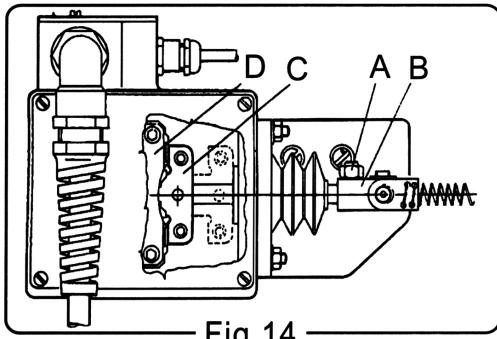
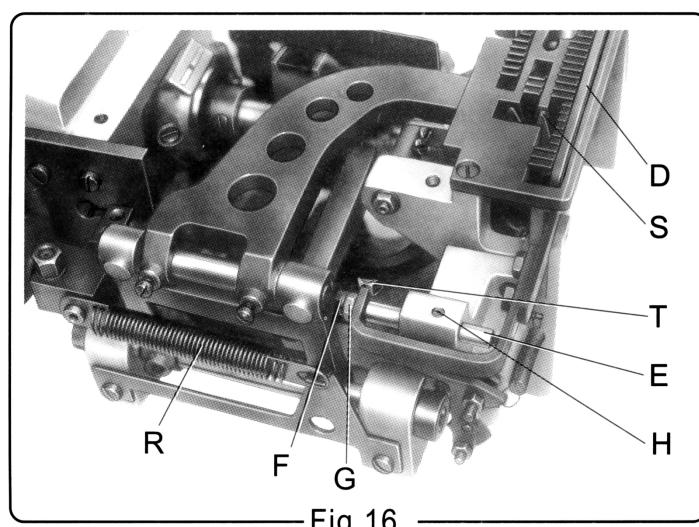
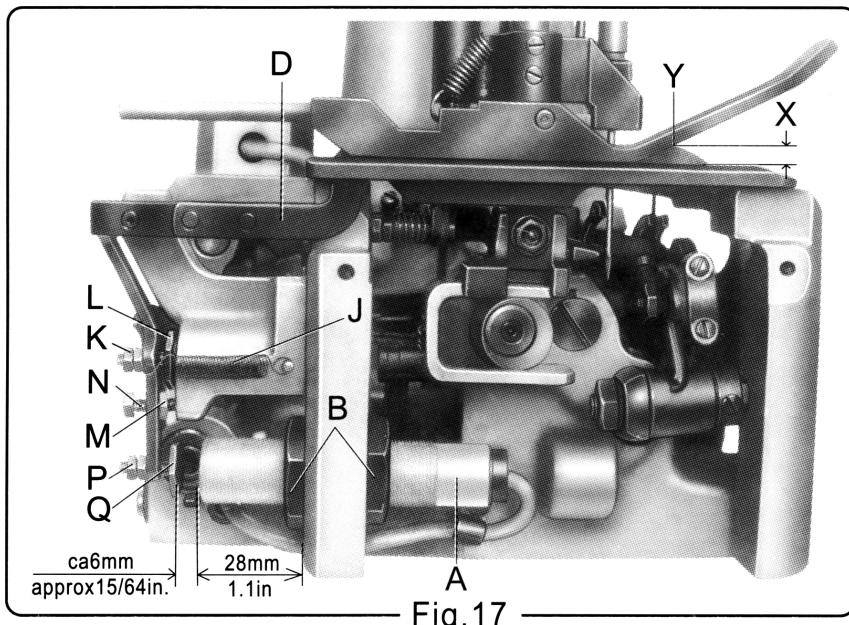

Fig.14
Fig.16
Fig.17
Model GK35-5 thread chain cutter is driven by electro-magnet . Model GK35-6 thread chain cutter is driven by air cylinder . When the thread chain cutter is in its home position below the throat plate , the knife tip of the chain cutter S (Fig.16) should be positioned 0.5mm below the throat plate top surface . To obtain this , adjust the knife lever stop screw T with lock nut in the bottom of the bed casting accordingly. retighten nut . In cutting position, above the throat plate top surface , the cutting edges of the chain cutters should overlap by 0.3mm.
Unhook pull-back spring R (Fig.16) and press the solenoid until the core of solenoid butts on the solenoid D (Fig.14) . Loosen nut A and move clamp B on the solenoid rod to left or right until the cutting edges overlap about 0.3mm . Retighten nut A and replace pullback spring R (Fig.16) .
Caution: The poston of the air cylinder should not strike against the cylinder inside when actuated. The stroke of piston must be limited by clamp A (Fig.17) striking against hexagon head stop screw B. Operatiing pressure of air cylinder is 0.3~0.5Mpa.
Remove colth plate and left end cover, mount the electronic proximity switch A (Fig.17) to the dimension of 28mm as shown in (Fig.17). When retighten two plastic nut B, don't damage the proximity switch.
The feeler D (Fig.16 and Fig.17) is adjusted initially with the two fastening screws for the feeler support braket. The feeler should not have any lateral play, but should turn readily. For this, loosen lock nut G (Fig.16), turn fastening screw F in or out as required, until the feeler turn readily. Retighten lock nut G.
The feeler D should be in the centre of the throat plate and the slot of the presser foot. Forr this, loosen lock screw H (Fig.16) and centre the feeler D in the throat plate and presser foot slot by moving the centring shaft E (Fig.16) laterally. Retighten screw H.
The dimension X (Fig.17) between upper throat plate surface and the feeler should not be less than 7mm (set as high as possible). The did stance between upper edge Y of feeler and lower edge of the feeler slot cut - out in the presser foot should be approx. 1mm to prevent impacting. For adjustment, loosen nut K and turn off screw L, so that the head of screw does not contact the magnet in the feeler support bracket. Loosen nut M and turn the feeler stop screw N in or out as required, to adjust the correct feeler height X. Secure the set feeler height with lock nut M.
d. Setting the Switching Pressure (Fig.17)
e. Setting the Switching Point (Fig.17)
c. Adjusting the Switching Point (Figure 17)